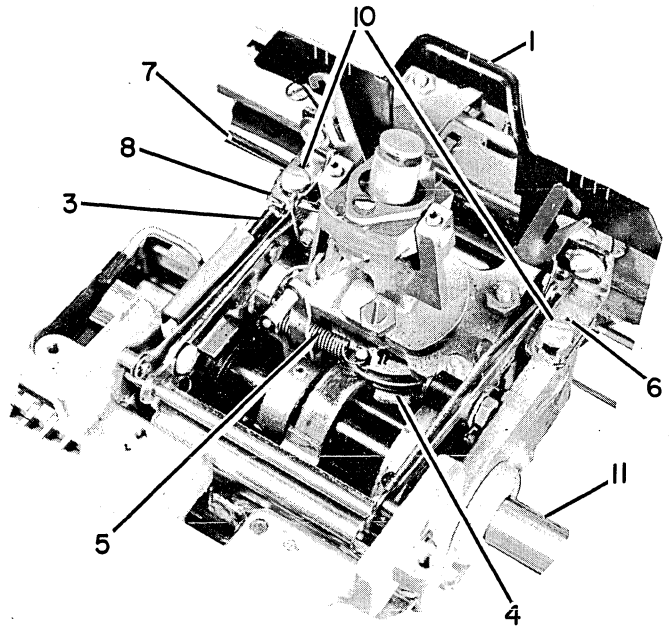

FIGURE 53. Carrier and Rocker Removal
2. Remove card holders (#1, Figure 53).
3. Disconnect ribbon lift spring (#3, Figure 53).
4. Release rotate spring tension (#4, Figure 53).
6. Remove tape anchor screw (#6, Figure 53).
7. Remove tapes (#7, Figure 53).
8. Remove tape wiper (#8, Figure 53) if present.
9. Remove escapement bracket mounting screws (#10, Figure 53).
12. Remove print shaft (#11, Figure 53).